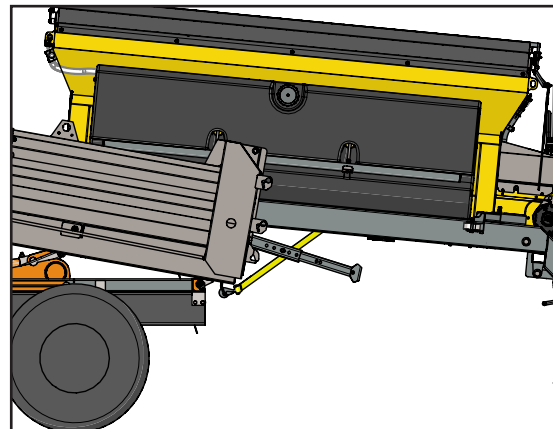

Figure 4
- Figure 4 - Continue to back dump body underneath spreader until truck makes contact with spreader.